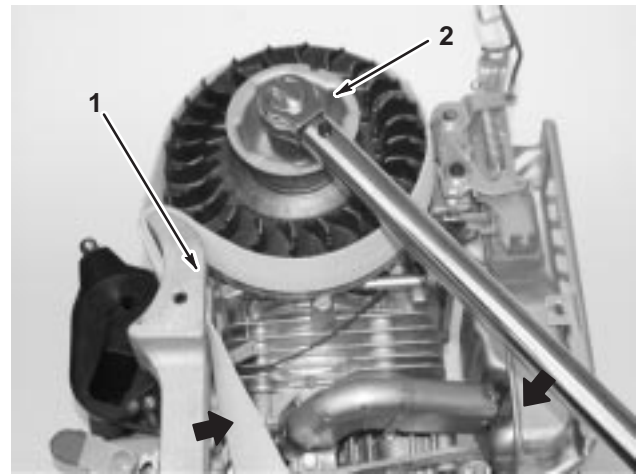

Fig. 16 – Torquing Flywheel
4. Use flywheel holder to hold flywheel from turning, Fig. 16.